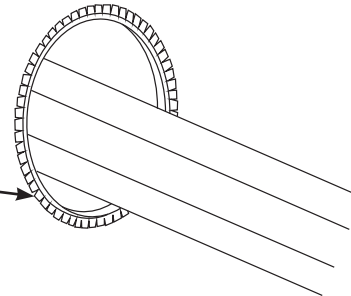

fig. 14
- b. In some cases, a hole may have to be drilled to allow access for the harness. Drill a 1"(25mm) diameter hole and install the provided grommet (fig. 14). It will be necessary to seal any grommets or holes that have been cut, drilled or removed so as not to allow elements to enter the cab area of the vehicle.